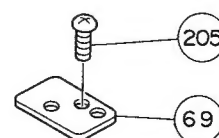
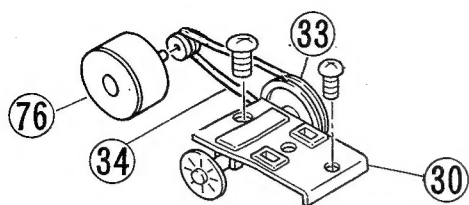

Figure 6
Figure 7
1. After removing the case top, remove Position PWB Assy (69) referring to Fig. 6.
2. Remove the Belt (34) between Servo-controlled Motor (76) and Pulley (33).
3. Remove the Sustainer K (30) referring to Fig. 7.